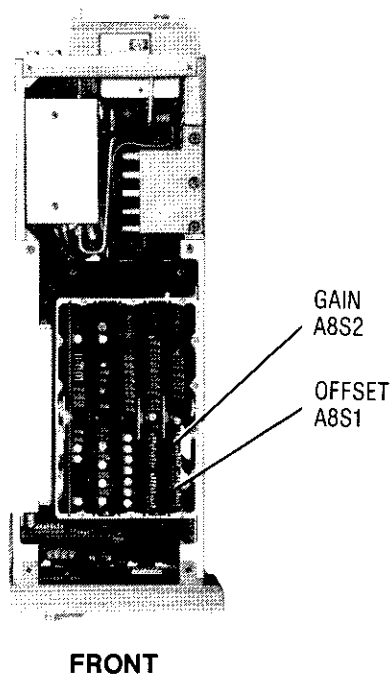
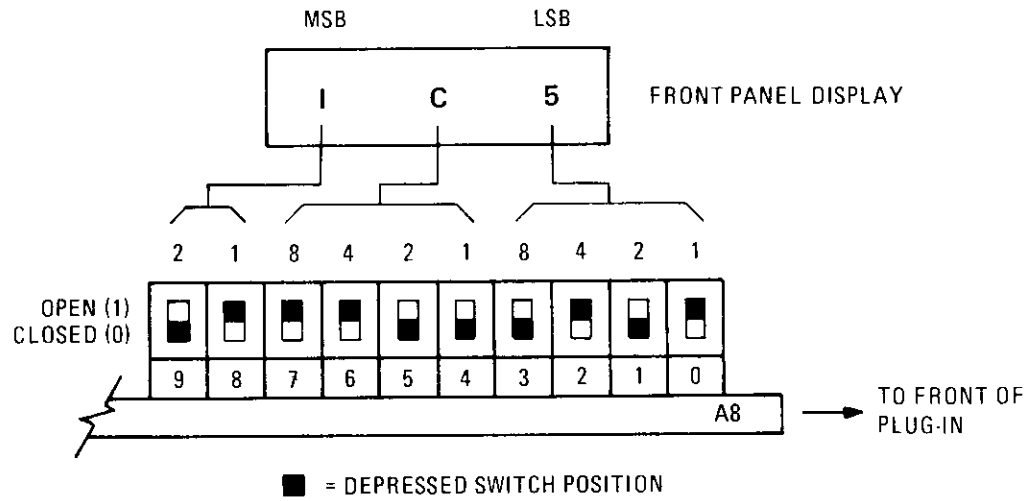

Figure 5-9. Frequency Calibration Switch Location
Figure 5-10. A8S1 and A8S2 Frequency Calibration Switch Configuration
8. Set switch A8S1 for the hexadecimal value displayed in the HP 83595A POWER display (See Table 8-4 in the service section). Refer to Figure 5-9 for the location of the frequency calibration switches. Refer to Figure 5-10 for an illustration of the calibration switch configuration.